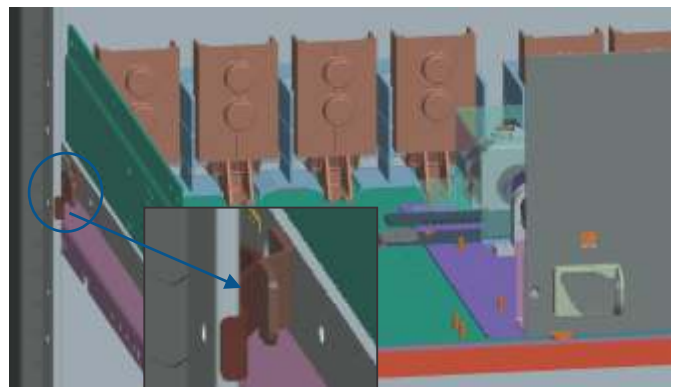

Figure 19 - Earthing for full width module
7. The 'make first, break last' type scraping earth system is provided on all draw out units. For full width module, scraping earth contact is provided on left side of the module. Counter part of the scraping earth is mounted on vertical connection of the main earthbar Figure 19.